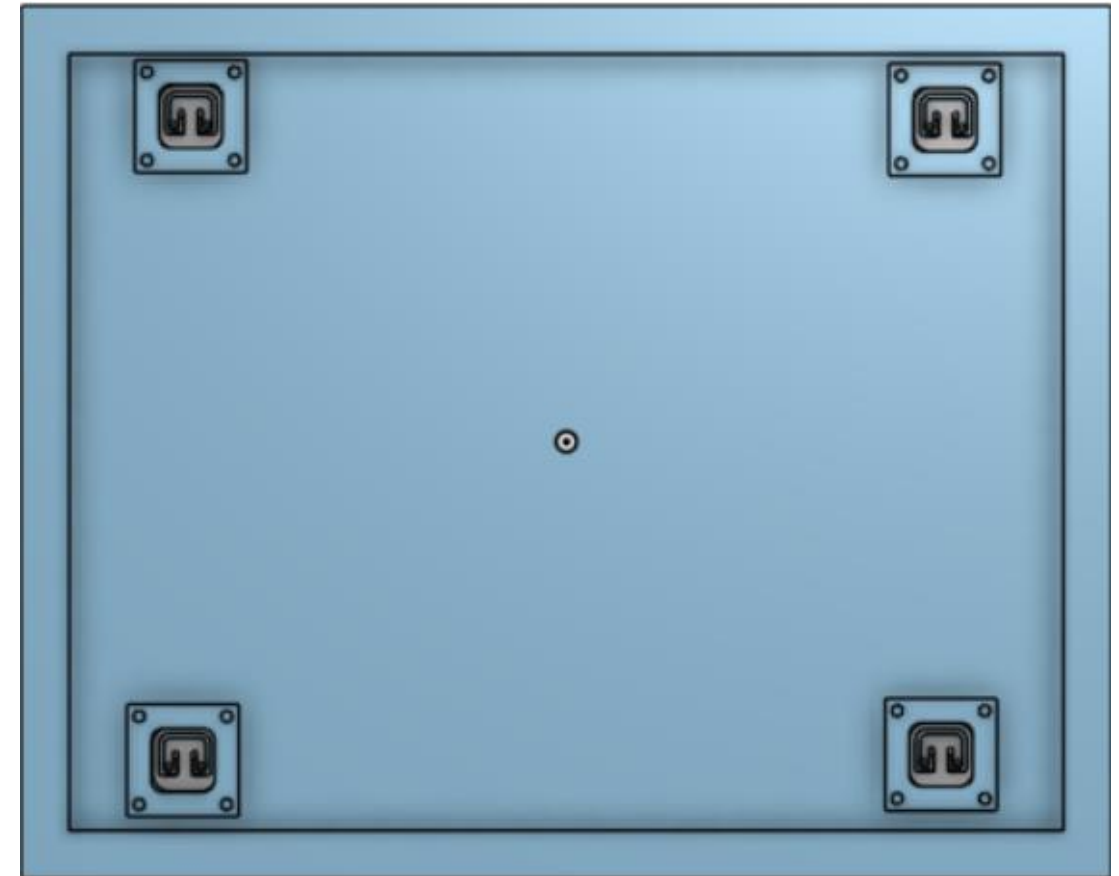

Figure 3: Prototype of base plate with load cells in place
- Once Figure 2 is converted into physical circuitry, then Figure 3 will be tested through weighing various objects at similar weights to the beehives